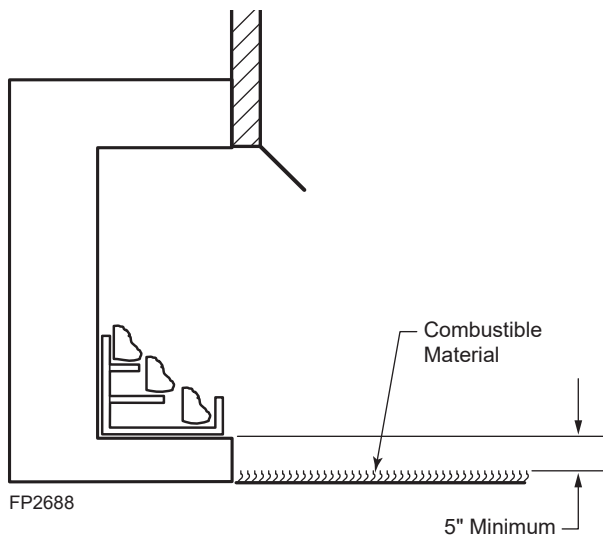

Figure 6.4 Minimum Clearance Above Combustible Flooring
**5. Floor clearance:** This inner chamber firebox floor must be installed at least 5" above any combustible flooring material, such as carpeting or asphalt tile, which is closer than 14" to the base of the firebox. See Figure 6.4.